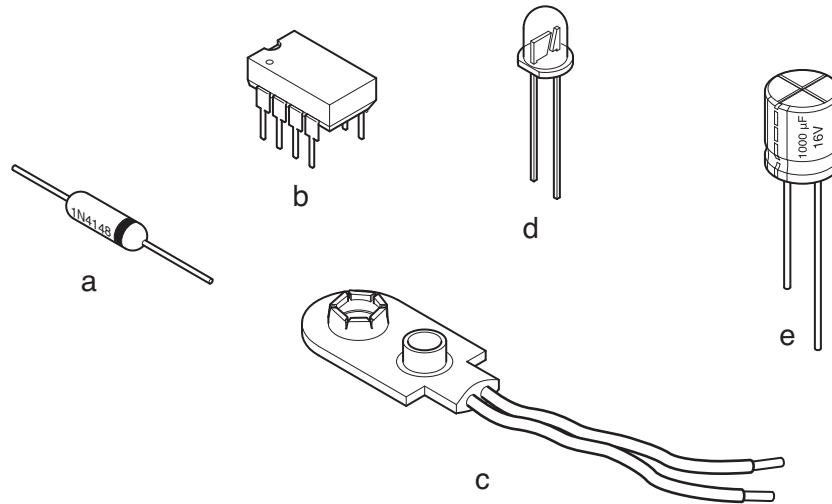
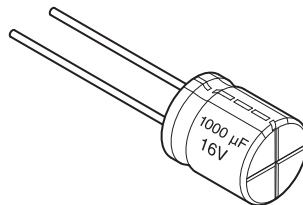

Fig. 1
Fig. 2
Fig. 1 shows five components that have to be fitted the correct way round in a circuit.
- (ii) Fig. 2 shows the information on the side of component **e** from Fig. 1. Give the meaning of each piece of information.